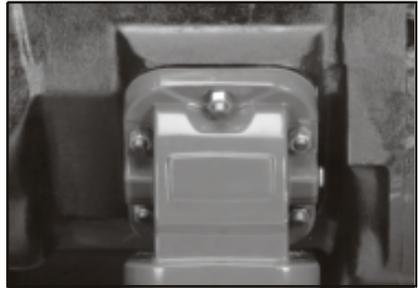

Fig. 5
5. Mount the adapter to the transmission with the gaskets provided. Then check and set backlash between the adapter and the transmission. (See Fig. 5)